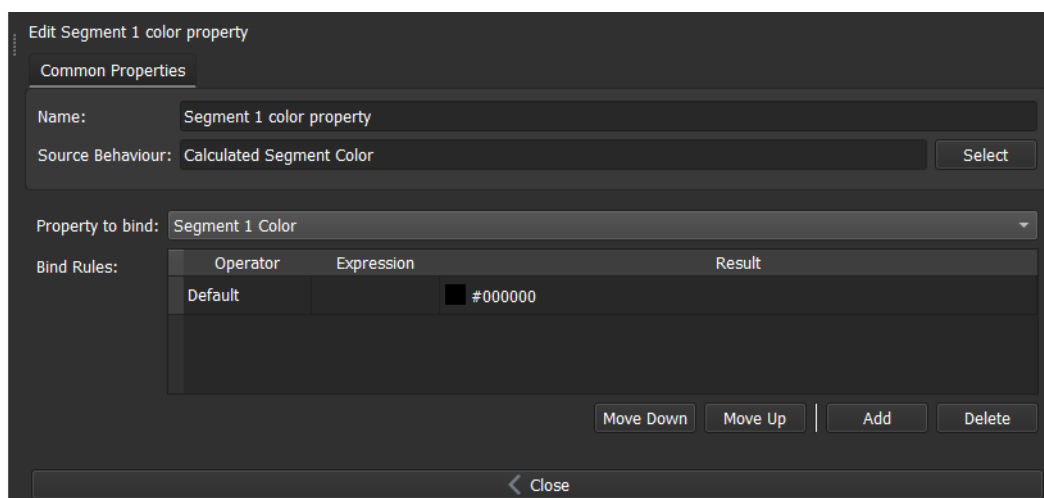

Fig. 3-22: Property Binding Edit Screen
And double-click on it to show the **Property** Binding edit screen. See Figure 3-22.
- 9 Configure the **Property** Binding as shown in Figure 3-22.